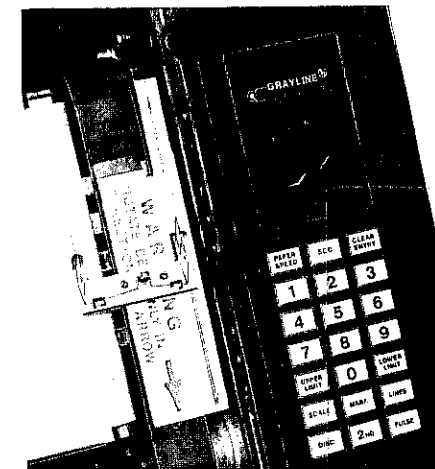

FIGURE 24
2. Release both catches on the top of the case. Pull out and down on the top of the case front to expose the stylus belt. (See Figure 24).
2. Release both catches on the top of the case. Pull out and down on the top of the case front to expose the platen assembly. (See Figure 24).
5. To remove the full take-up roll and the empty supply spool, press the two metal tabs together on the top of the transport assembly, and pull out and down on the paper retainer. (See Figure 24). The full take-up roll can now be easily removed from the paper core shafts. (See Figure 27).